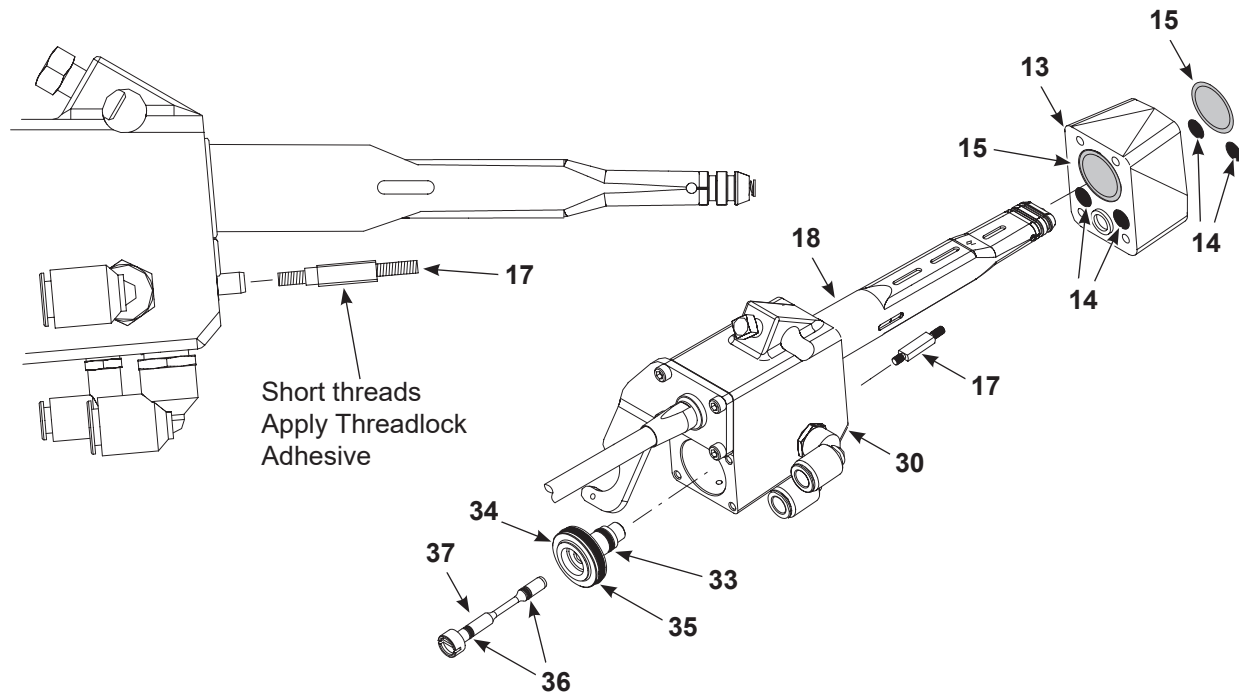

Figure 7-6 Removing the Spacer and Piston from the Gun Body
10. See Figure 7-6 Push the connecting rod and piston (34) out of the gunbody (30).